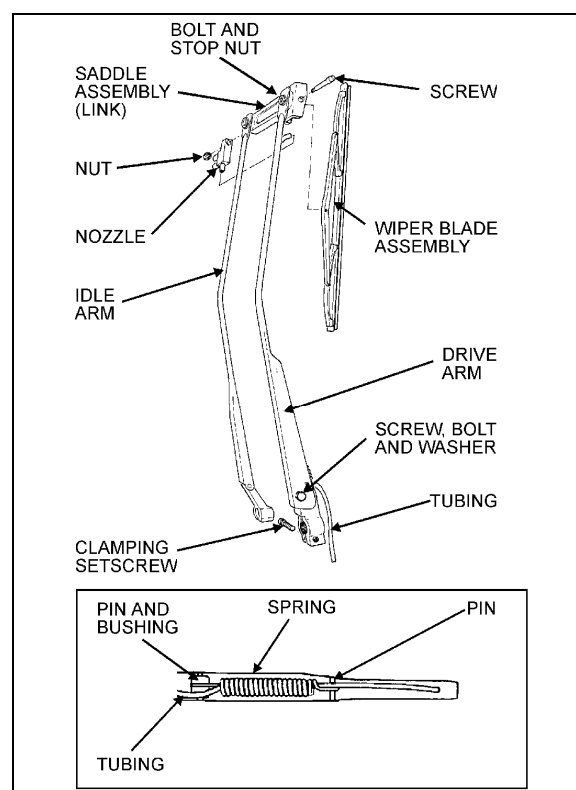
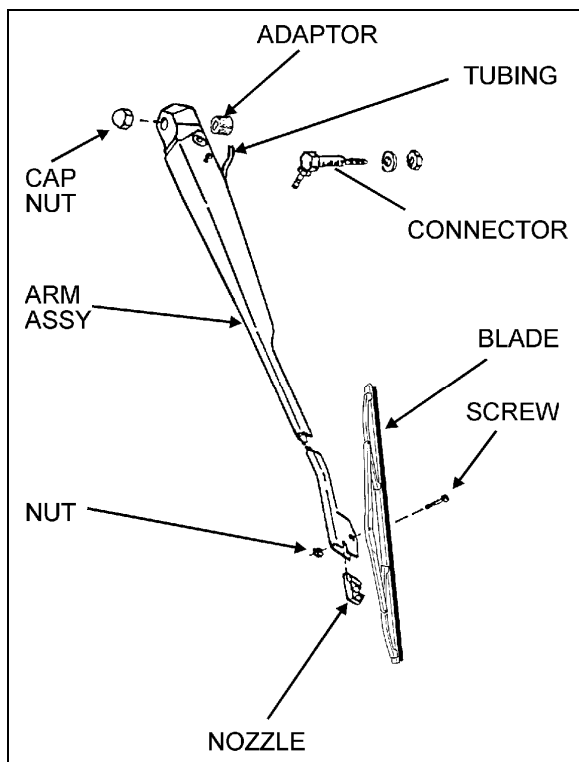

FIGURE 37: LOWER WINDSHIELD WIPER 23086
FIGURE 38: UPPER WINDSHIELD WIPER
1. Remove the cap nuts from the wiper arm pivot shafts (Figure 37 & Figure 38);